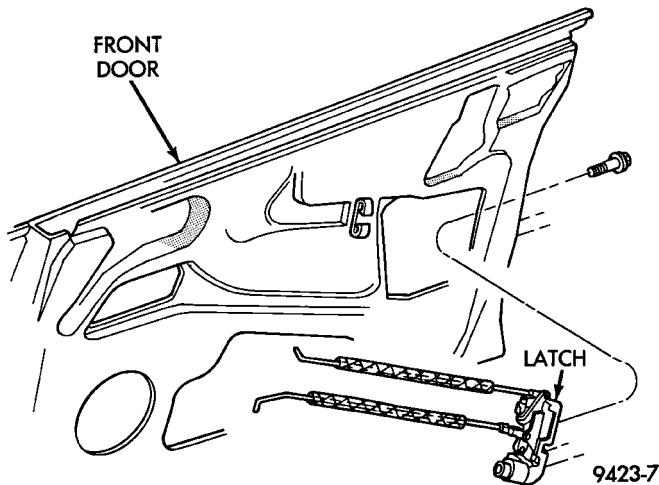

Fig. 27 Front Door Latch
- (3) Disconnect lock and latch rods from door latch (Fig. 27).
- (4) Disengage wire connector from power door lock motor, if equipped.
- (5) Remove screws holding latch to door end frame.
- (6) Separate door latch from vehicle.